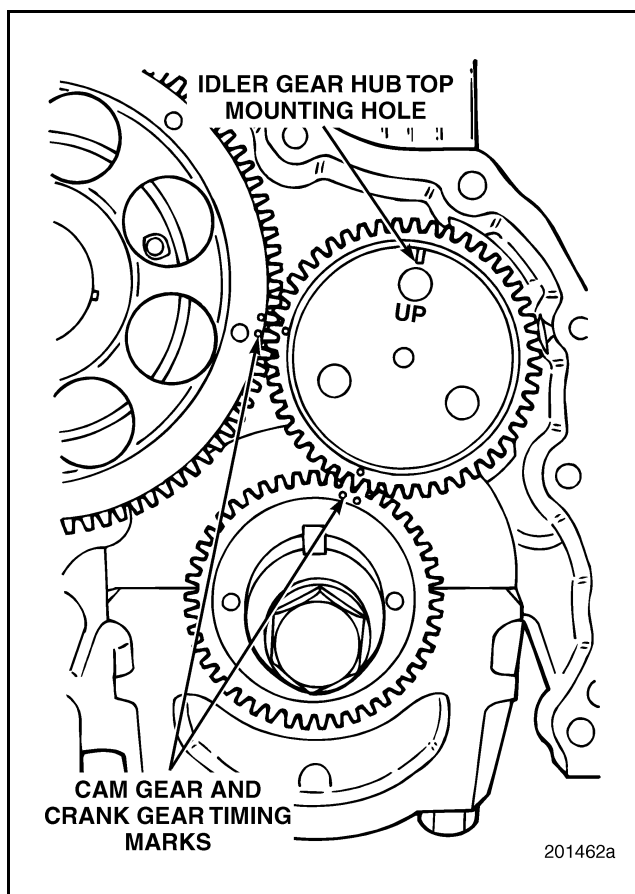

Figure 264 — Hub Correctly Positioned on Block
1. With the engine in an upright position and the hub correctly aligned with the mounting bolt holes, place idler hub against the block and verify good mounting hole alignment (Figure 264).